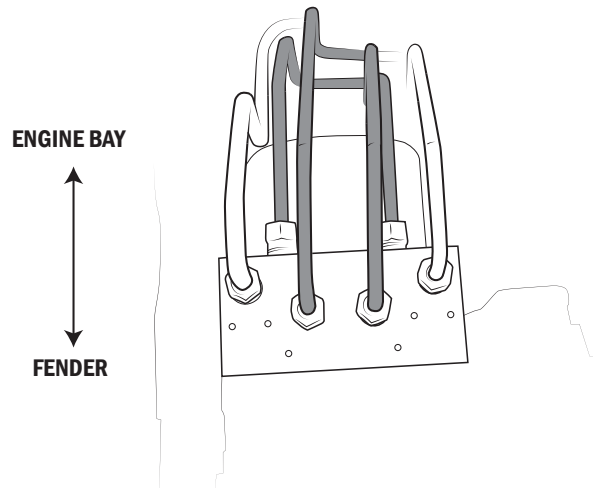

Figure 5
17. Remove the four (4) brake lines shaded in Figure 5.